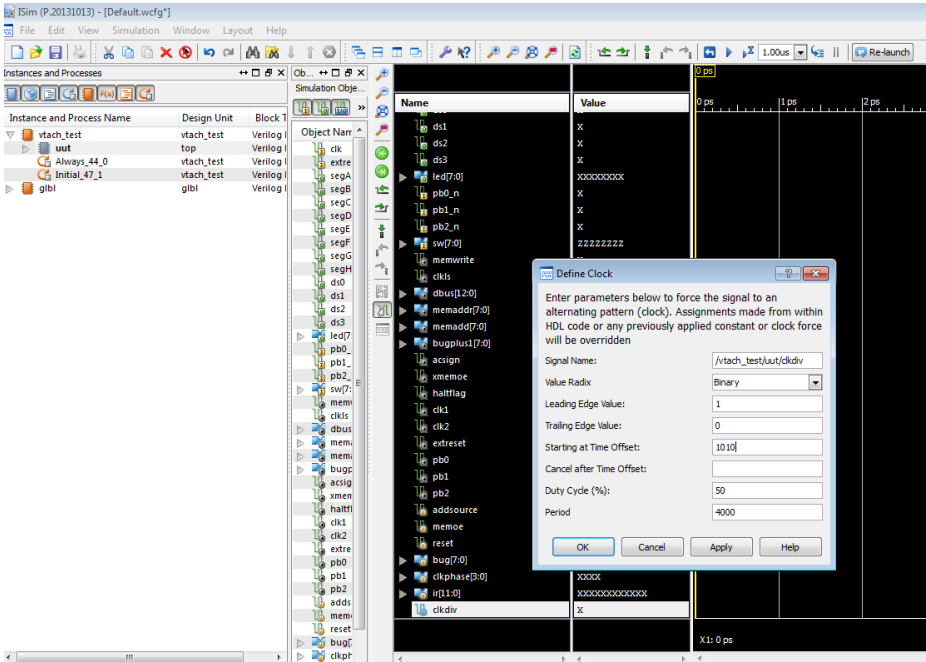

Figure 5-26 Force clkdiv
- Now go to the bottom of the wave window, right-click the signal `clkdiv`, and, as shown in Figure 5-26, force the clock to have a leading edge value =1 of trailing edge value of 0, and a period of 4000. Set Starting at Time Offset to 1010 and click OK. This is required because there is a slight problem with the way the clock divider design is implemented and the way iSim sees it without a delay through the register. This is a shortcut hack, but sometimes it's okay to do this because we know that the design works in the real logic. It didn't seem worth the effort to try to fix it for simulation.